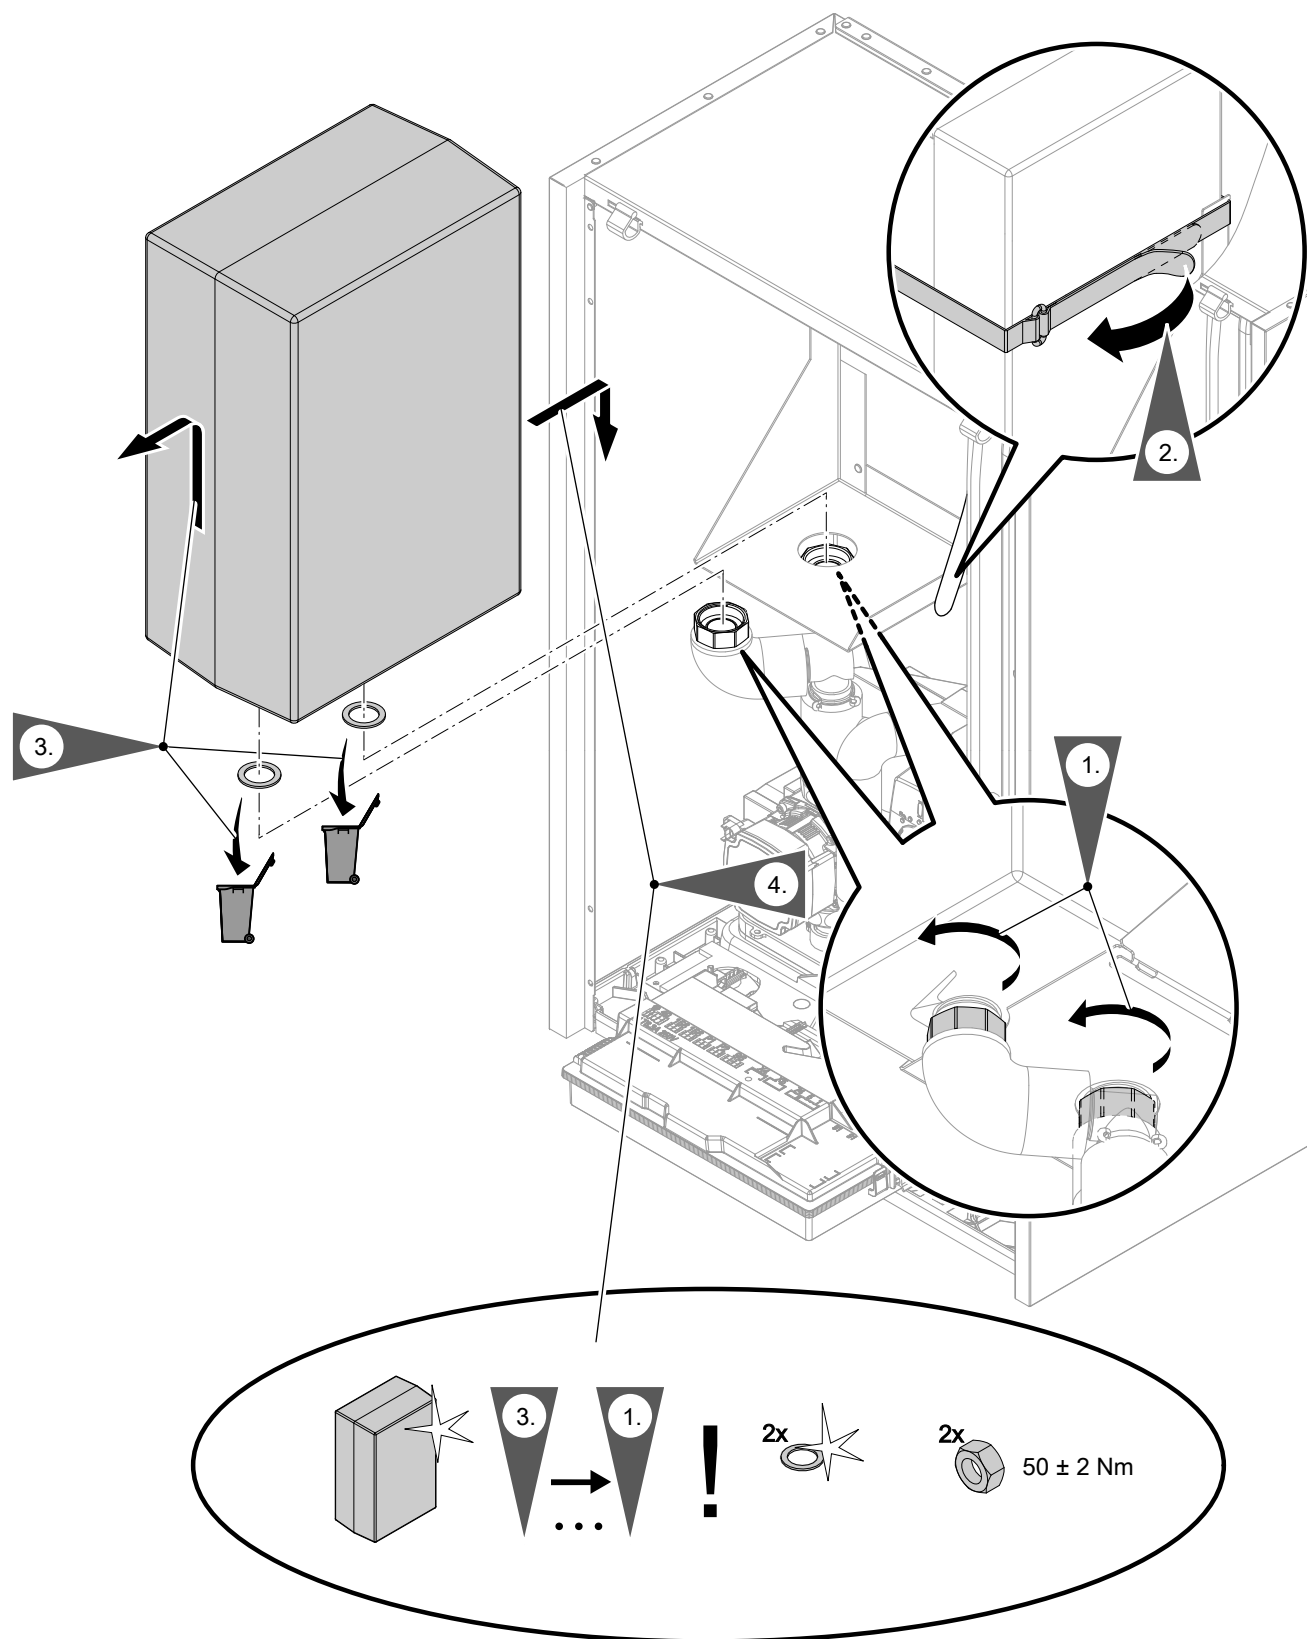

Fig. 87
- Integral buffer cylinder: See Fig. 87.